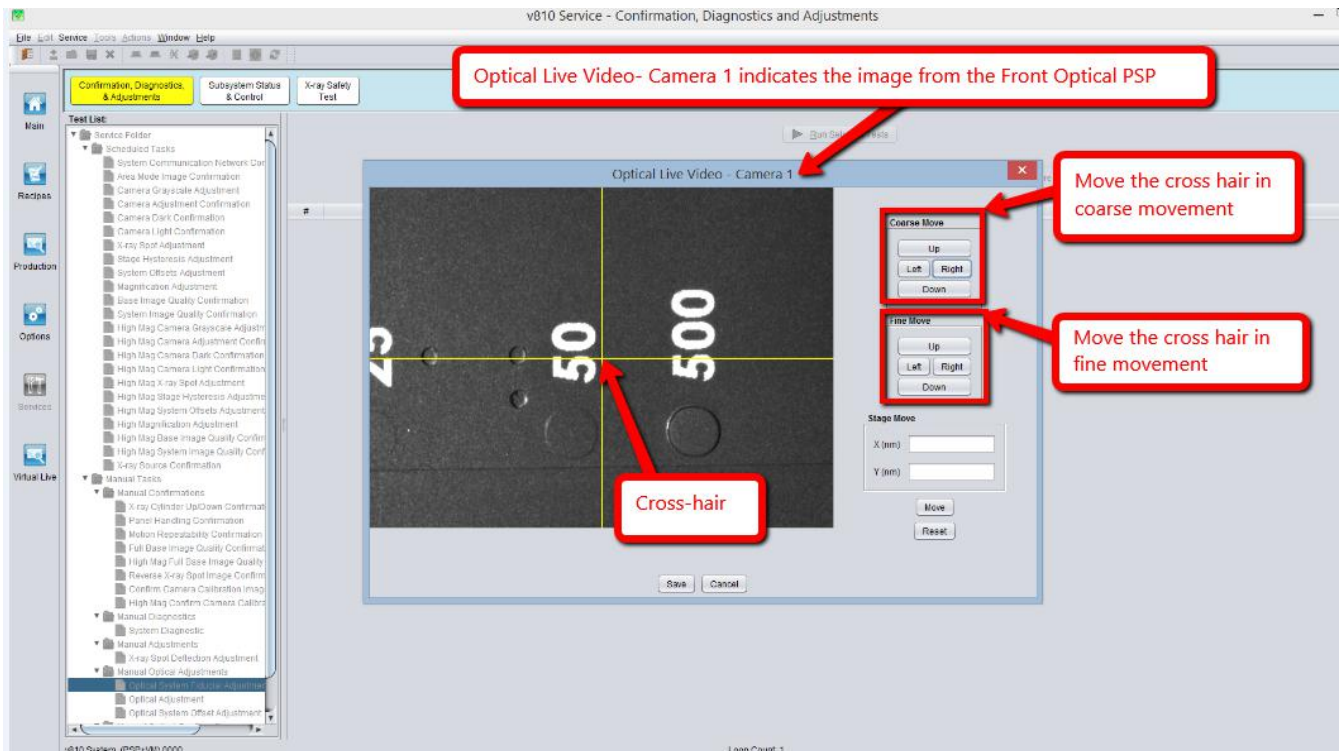

Figure 10 Front PSP Optical Camera
10. Once the Adjustment Plate has been loaded, the image from the Front PSP Optical Camera will be shown as in the Figure 10.